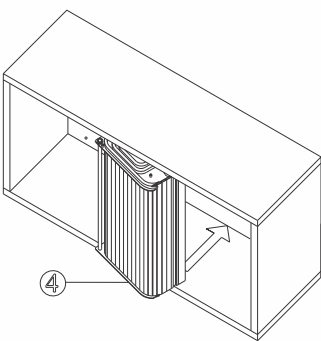

Fig.1
1. Insert the Spring mechanism inside the cabinet as shown in Fig.1.